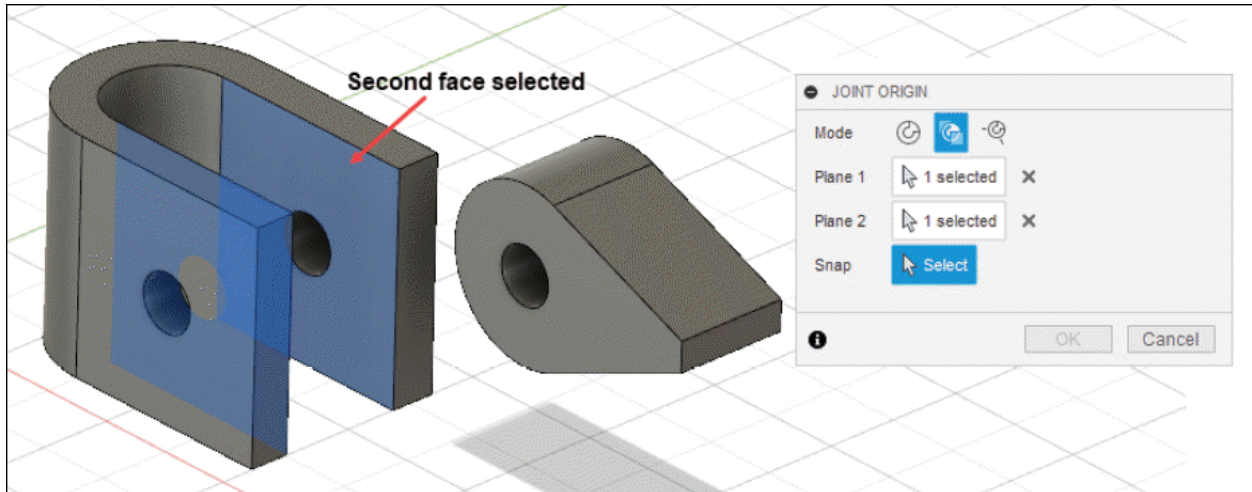

Figure-30. Selection of second face
- On selecting the first face, the **Select** button of **Plane 2** section will be activated. Similarly, select the second face of the model; refer to Figure-30. The updated **JOINT ORIGIN** dialog box will be displayed.